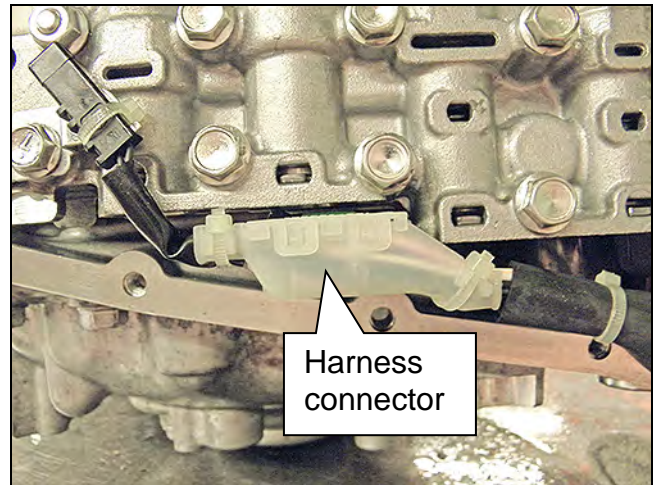

Figure 8A
4. Connect the electrical harness connector (Figure 8A).